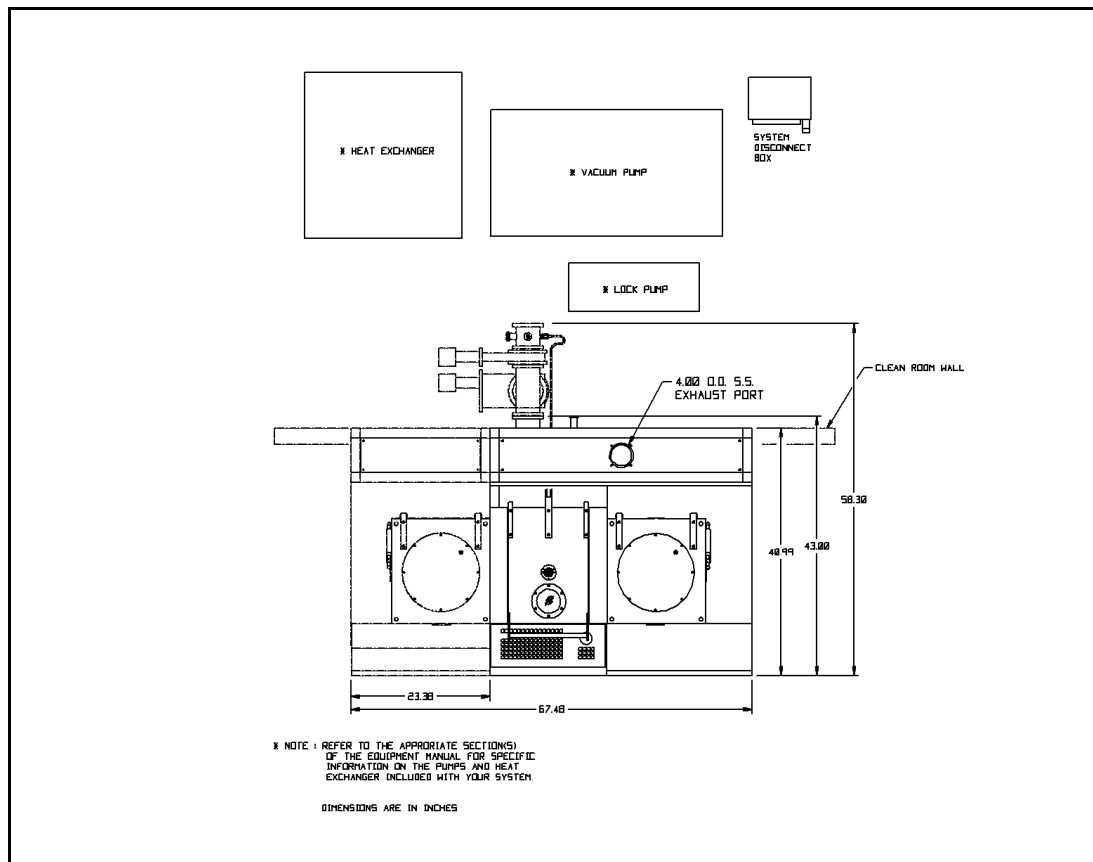

Figure 2-4. Typical Equipment Installation Arrangement
4. Review Section 2.1 and refer to Figure 2-4, Section 2.5.1.2 before proceeding.
Figure 2-4 illustrates a typical system arrangement.